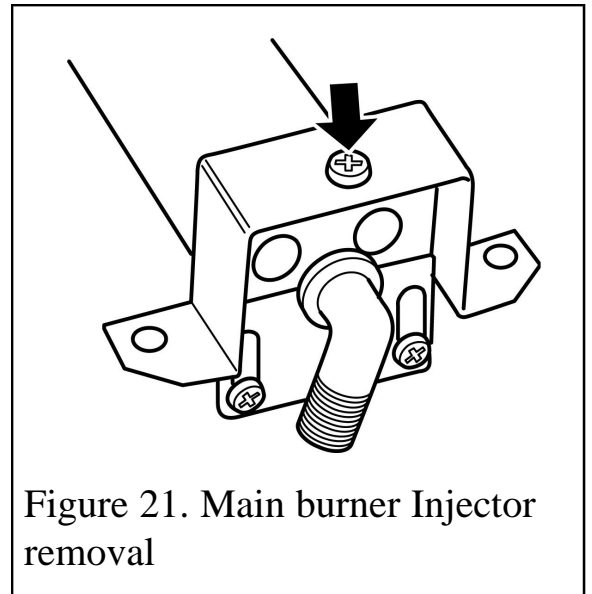

Figure 21. Main burner Injector removal
(See figure 21).
2. Remove the burner clamping screw (See figure 21)